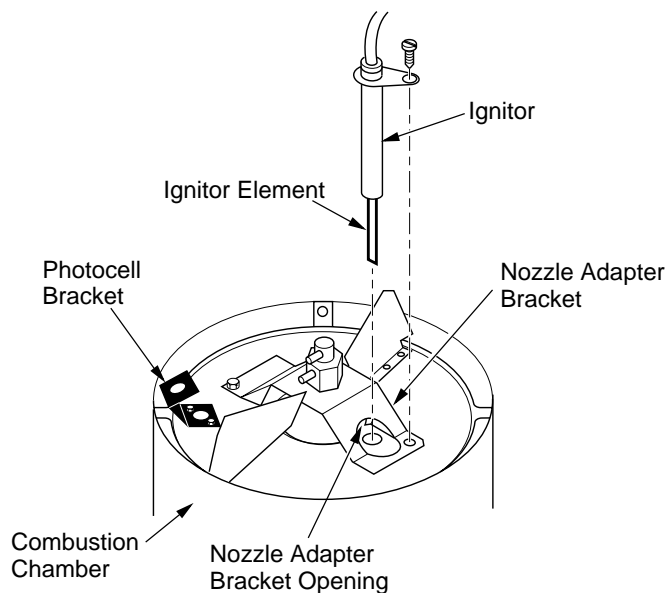
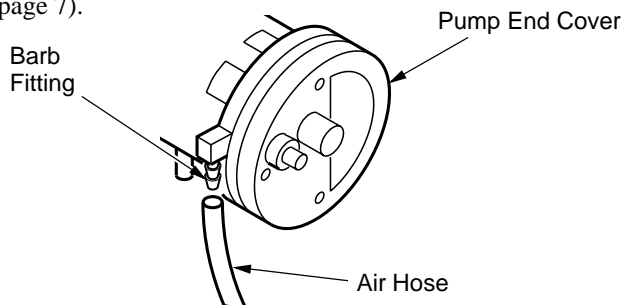

Figure 12 - Ignitor Replacement
Figure 16 - Air Hose to Barb Fitting
6. Remove combustion chamber. Stand combustion chamber on end with nozzle adapter bracket on top (see Figure 12).
9. Carefully guide ignitor into opening in nozzle adapter bracket. Do not strike ignitor element. Attach ignitor to nozzle adapter bracket with screw using a 5/16" nut driver (see Figure 12). Torque 8 to 15 in-lbs (.90 to 1.69 N-m) Do not over torque.
- Inspect fuel and air line hoses for cracks and/or holes. If fuel line hose is damaged, disconnect from nozzle adapter (see Figure 12, page 9) and from fuel filter (see *Fuel Filter*, page 8). If air line hose is damaged, disconnect from nozzle adapter (see Figure 12, page 9) and from barb fitting on pump end cover (see Figure 16).
- Install new air and/or fuel line. Attach one end of air line hose to barb fitting on pump end cover (see Figure 16) and the other end to nozzle adapter (see Figure 12, page 9). Attach one end of fuel line hose to fuel filter (see *Fuel Filter*, page 8) and the other end to nozzle adapter (see Figure 12, page 9).
**Note:** Route hoses as shown in see Figure 12, page 9. Hoses are not to touch photocell bracket.